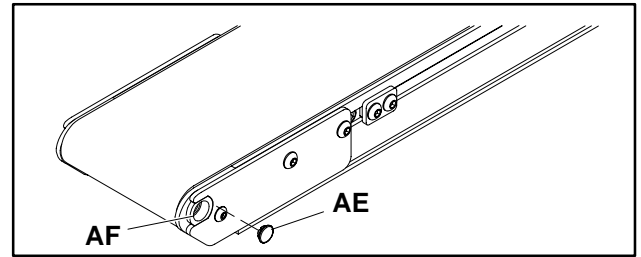

Figure 12
1. With a small flat-blade screwdriver, remove plug (AE of Figure 12) from retainer (AF).